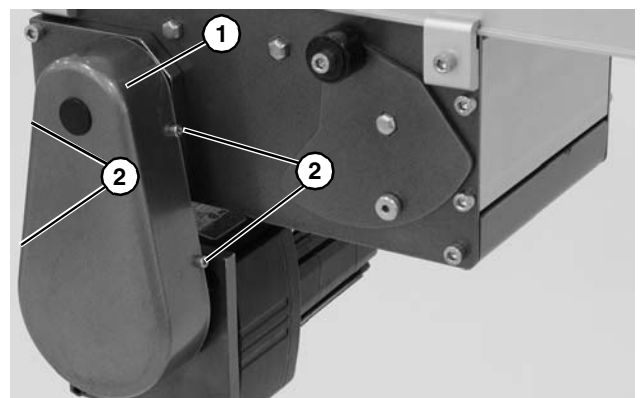

Figure 10
- Install cover (**Figure 10, item 1**) with four (4) screws (**Figure 10, item 2**). Tighten screws to 35 in-lb (4 Nm).